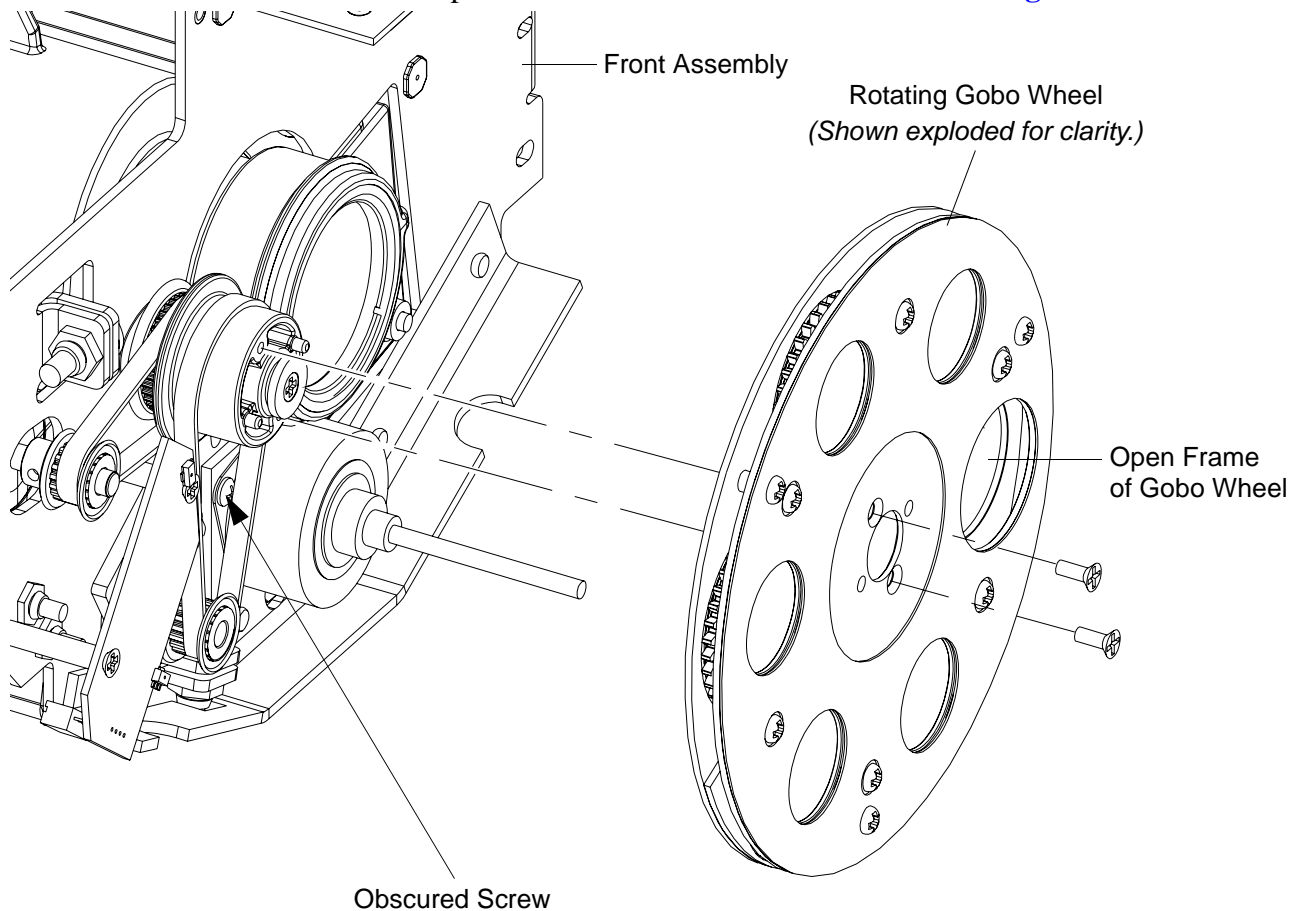

Figure 2-9: Accessing Edge Motor Assembly Attaching Hardware
- Step 4. The rotating gobo wheel obscures one of the screws securing the edge motor assembly to the front assembly. At rotating gobo wheel, turn gobo wheel until the open frame is over head of obscured screw. Figure 2-9.